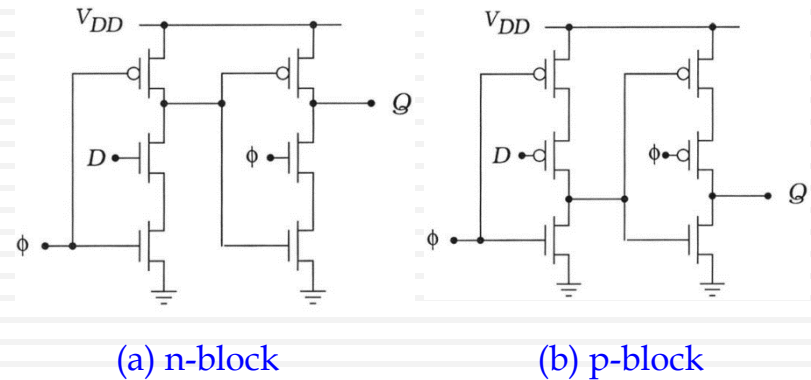

Figure 15.25 True single-phase clock latches
- Two TSPC latches are shown in Figure 15.25